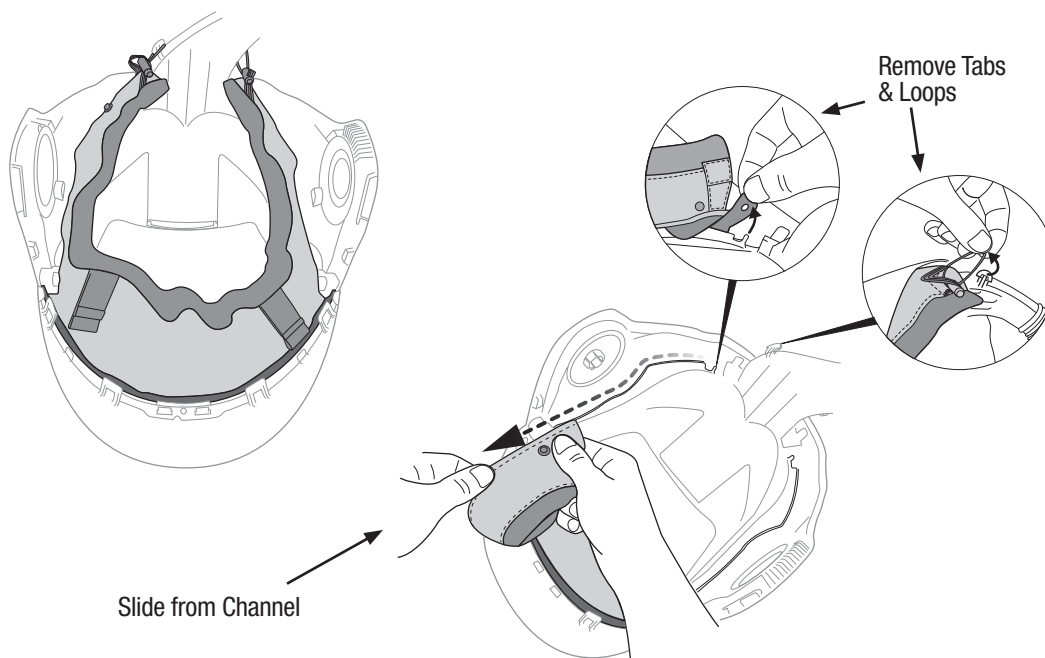

Fig. 20a
- Turn the welding helmet upside down and remove the faceseal tabs and retaining loops from their posts next to the airduct tube (Fig. 20a).
- Slide each side of the faceseal out of the channel holding it to the welding helmet and pull away the plastic retaining strip at the chin area of the faceseal (Fig. 20a and 20b).